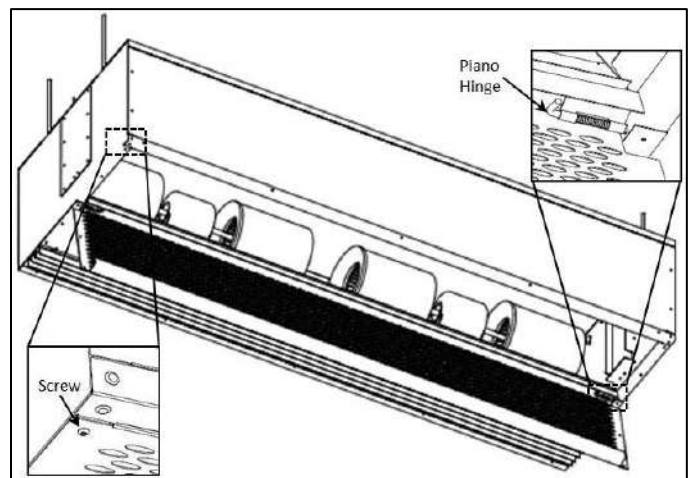

FIG. 1
2. The intake screen can be opened by removing the two screws on the bottom of the unit. The screen can be removed from the unit by pulling the spring loaded piano hinges. (FIG. 1)